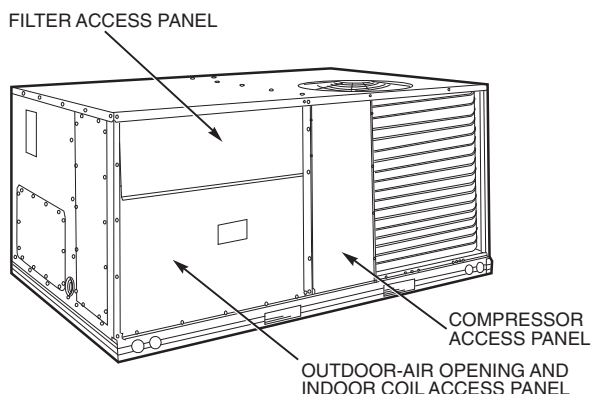

Fig. 11 — Typical Access Panel Locations
1. To gain access to the hood, remove the filter access panel. (See Fig. 11.)